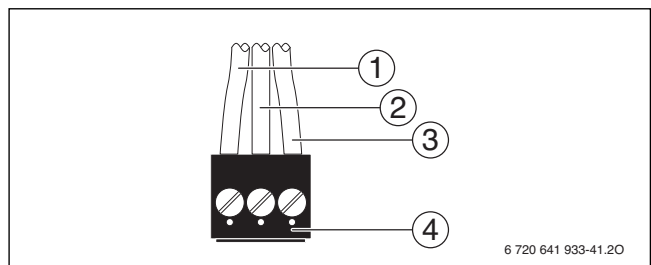

Fig. 52 Attach plug (external pump)
- Connect cable to **the black plug** according to Fig. 52.